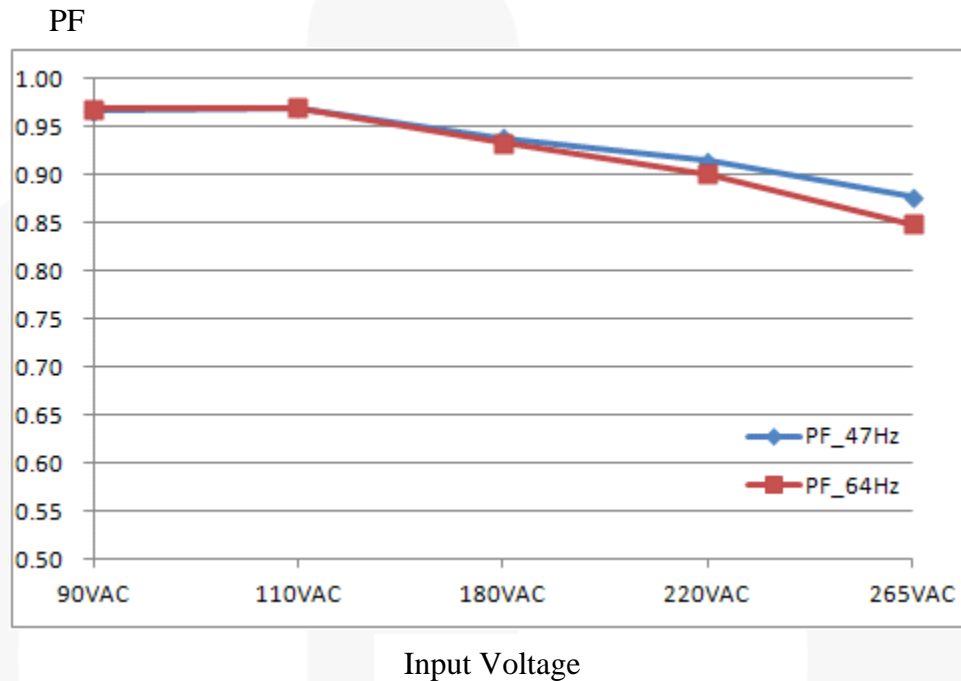

Figure 28. Power Factor
Figure 28 shows the system Power Factor (PF) performance for the entire input voltage range (90 VAC to 265 VAC) at different input frequency conditions (47 Hz, 64 Hz). The PF changes slightly according to the input frequency, but can achieve over 0.85 at 265 VAC condition.